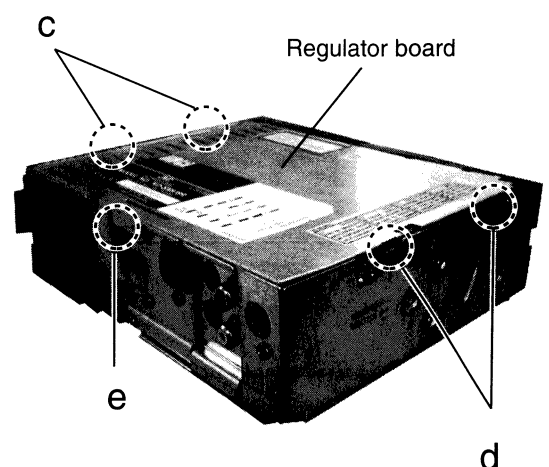

Fig. 3
■ Removing the bottom cover (See Fig.3)